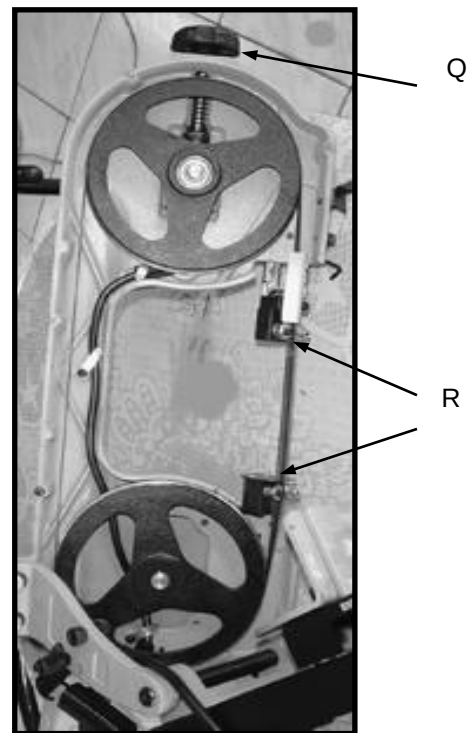

Fig 11
2. Loosen tension screw knob Q of (Fig 11) sufficiently to allow the saw blade to slip off the wheels. Install the new blade.
3. Place the blade in between each of the guide bearings R of (Fig 11).
8. Adjust the blade tension knob Q of (Fig 11) clockwise until it is just right enough so no blade slippage occurs. Do not tighten excessively.